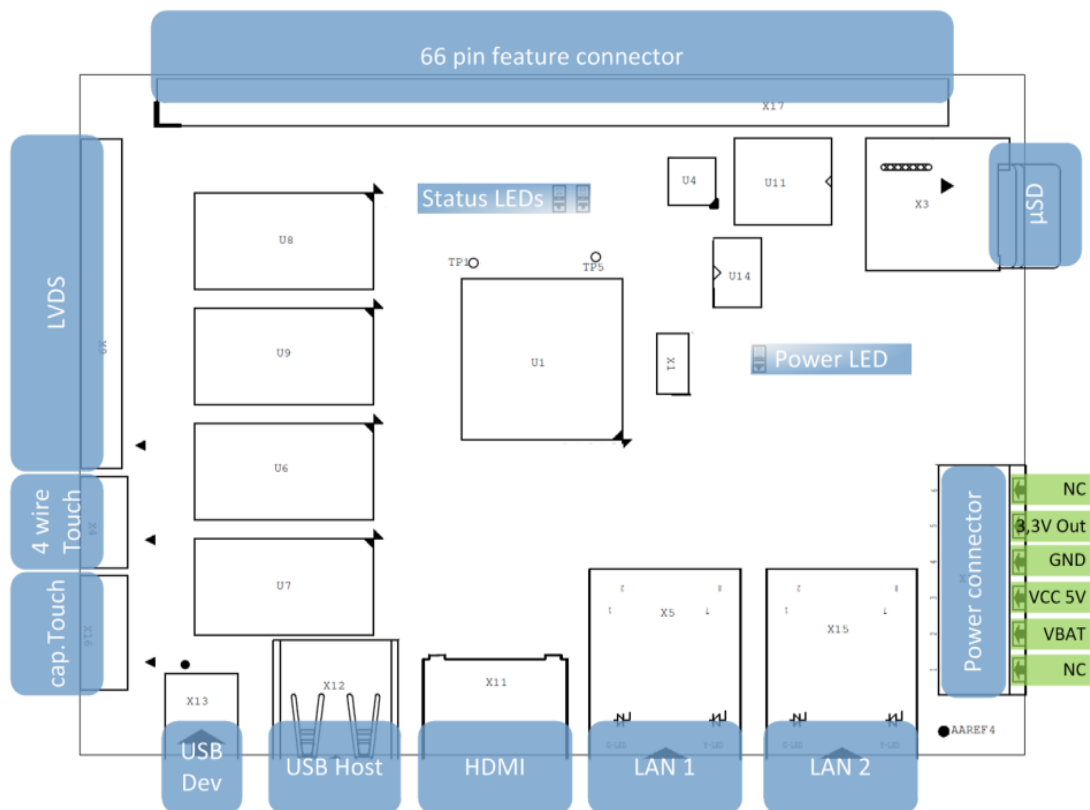

Figure 1: armStoneA8 pico-ITX interfaces (top side)
Before you power on armStoneA8, you should make a serial connection between armStoneA8 and your PC. Please use the cables shipped with the armStoneA8 Starterkit to connect your PC to the Debug-Port of the armStoneA8. The Debug-Port resides on the 66 pin feature connector. (see Figure 1). In hardware revision 1.10 the pins are located at a 5 pin single row connector which is mounted at pin 53, 55, 57, 59 and 61. That allows attaching a standard 9pin to DSUB9 adapter cable for debug output of boot loader and kernel with TX and RX to a terminal. Using RTS and CTS too needs a special cable adapter.
- Make a cable between power connector of armStoneA8 (see Figure 1) and your power supply. Usually you need to connect ground and +5V (2A).